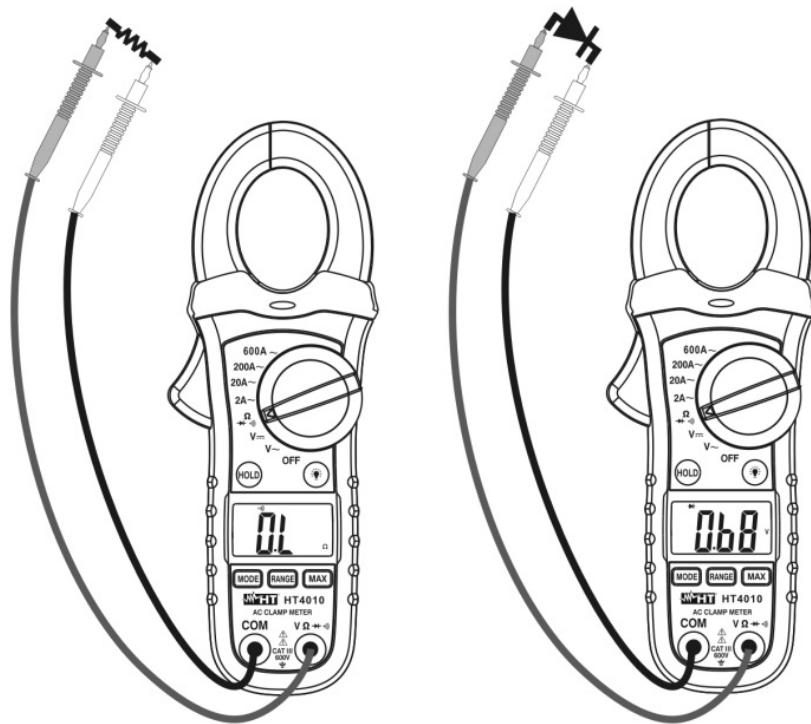

Fig. 6: Taking continuity test and diode test
3. Insert the red test lead plug into $V \Omega \rightarrow \rightarrow \rightarrow$ jack and the black test lead plug into **COM** jack and perform continuity test on the object on test (see Fig. 6 – left side). Buzzer emits sound if the measured resistance value is less about 150 Ω
5. Connect the red test leads to the anode of diode on test and the black test lead on the cathode ones (see Fig. 6 – right side). The correspondent threshold voltage of P-N junction is showed on display